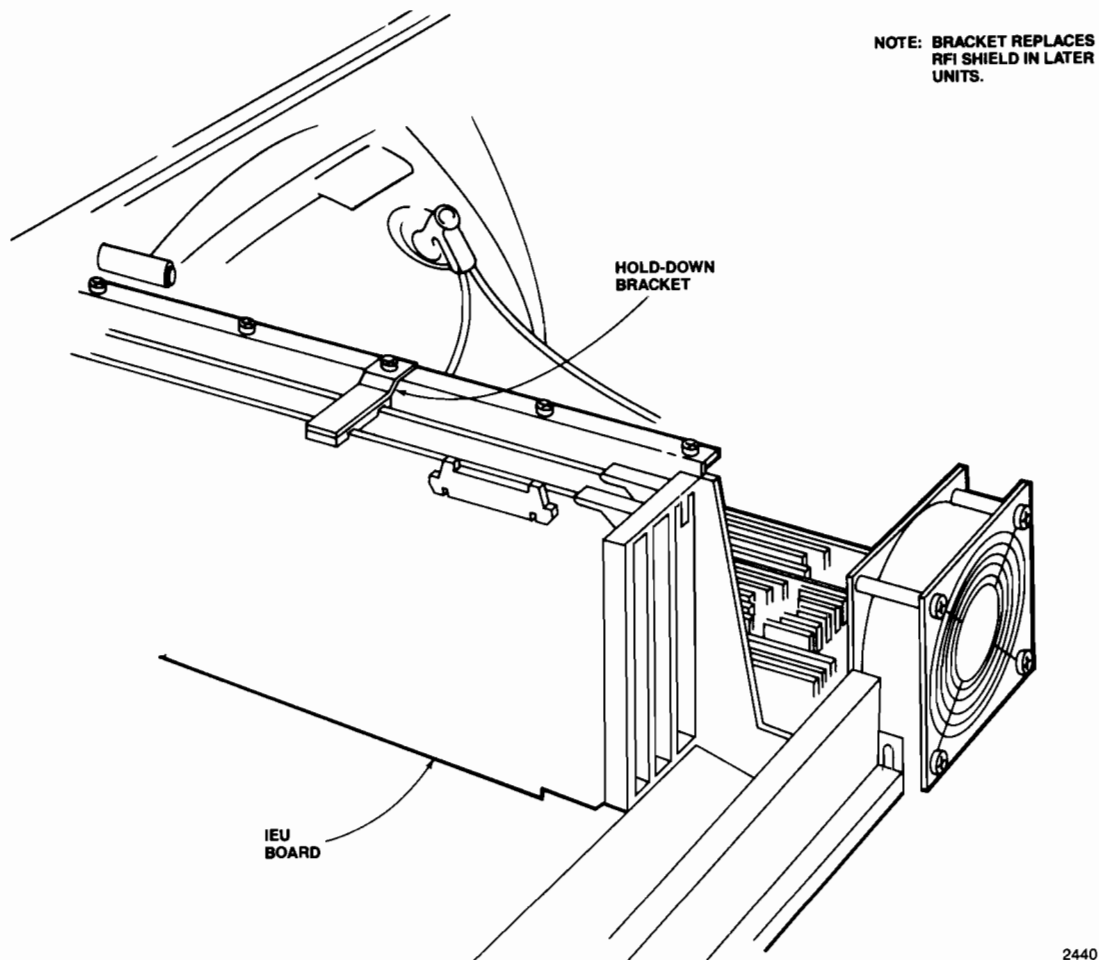

Figure B-9 Removal of the Hold-Down Bracket
1. Remove the board hold-down bracket by removing the single screw holding it in place (refer to Figure B-9).